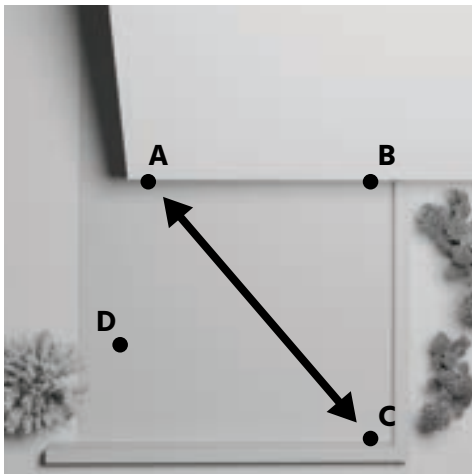

figure 1
- **Poles with fixed boom** must **be oriented toward the opposite anchor** to recreate the quadrilateral's diagonal. (see figure 1)